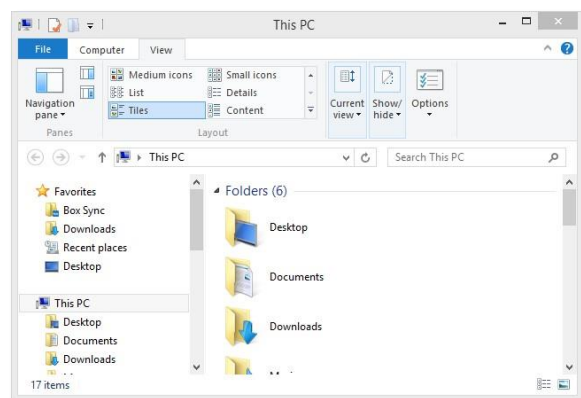

Figure 58: Location of the Options button.
1. Open **File Explorer** and select the **Options** from the **View** menu (**Figure 58**).